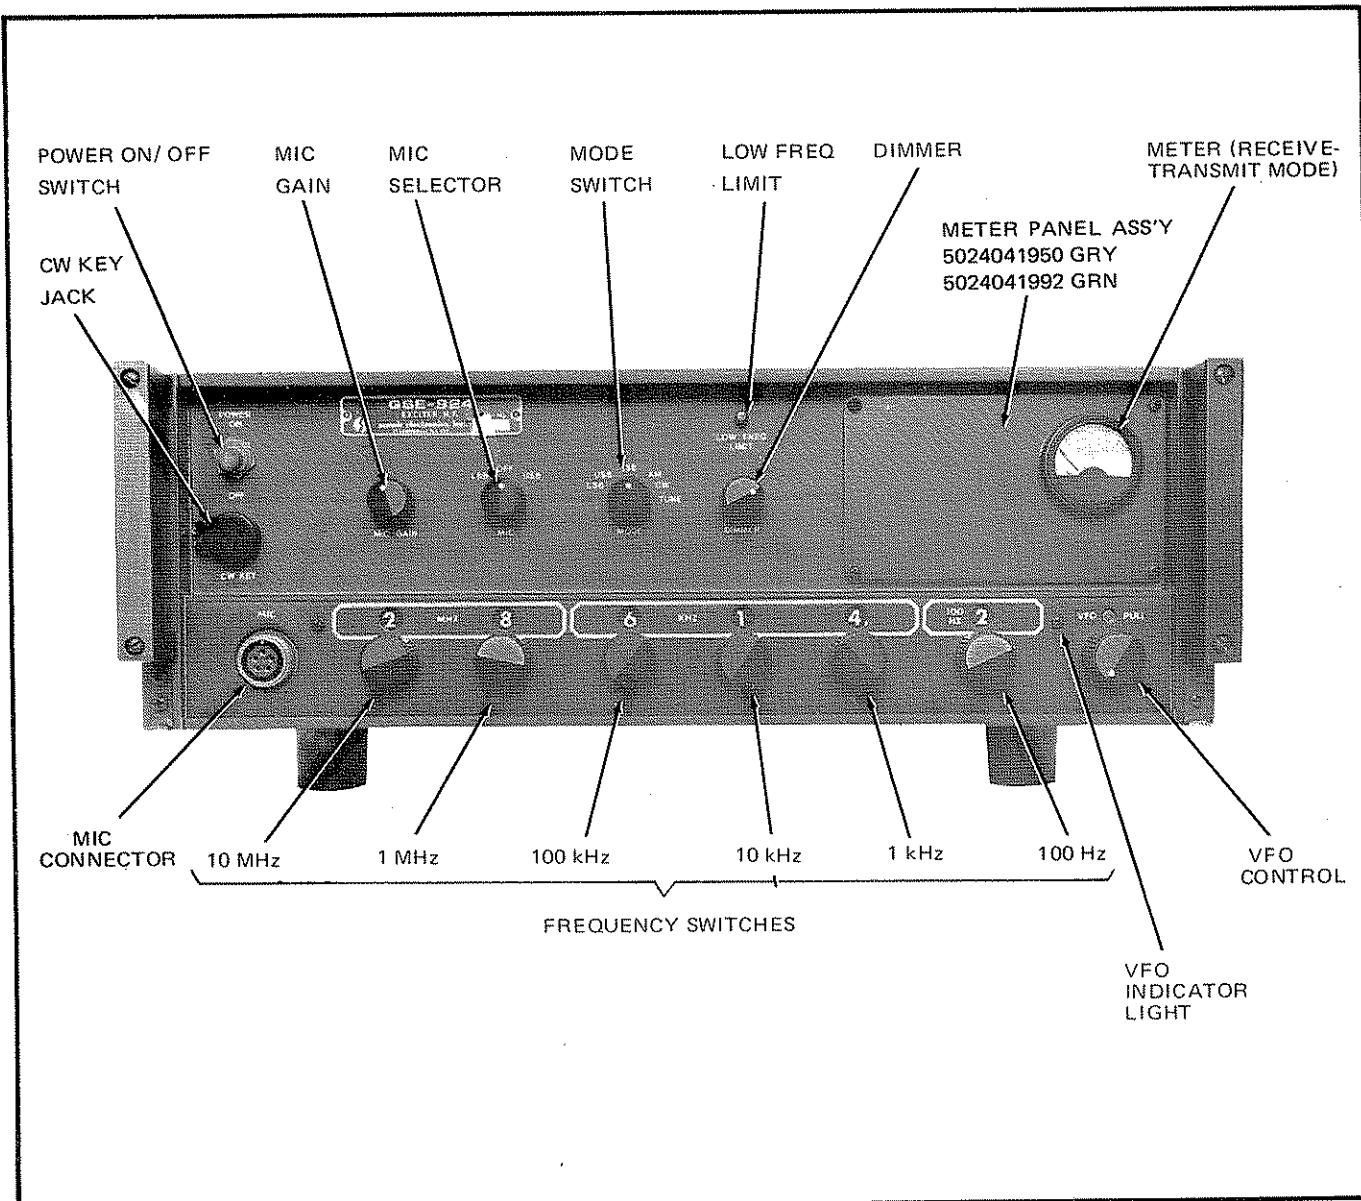

Figure 3.1 GSE-924, Exciter Front Panel
3.2.1 Listed below are description of all controls, indicators and connectors located on the front panel of the GSE-924 Exciter. They are illustrated in Figure 3.1.